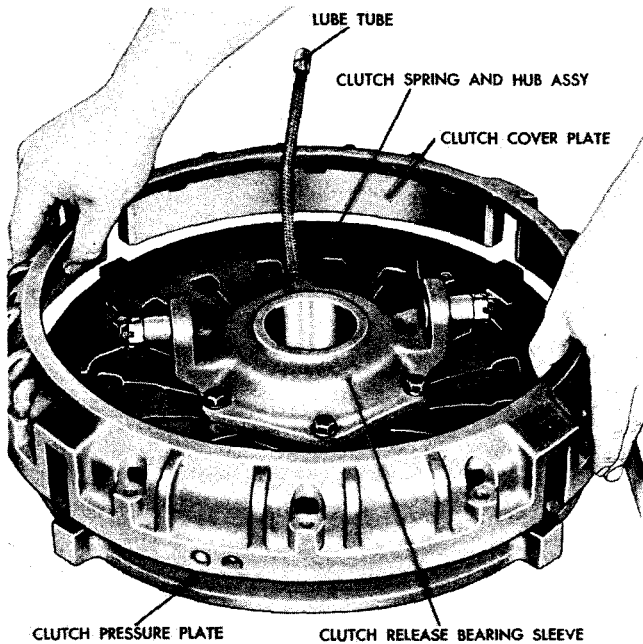
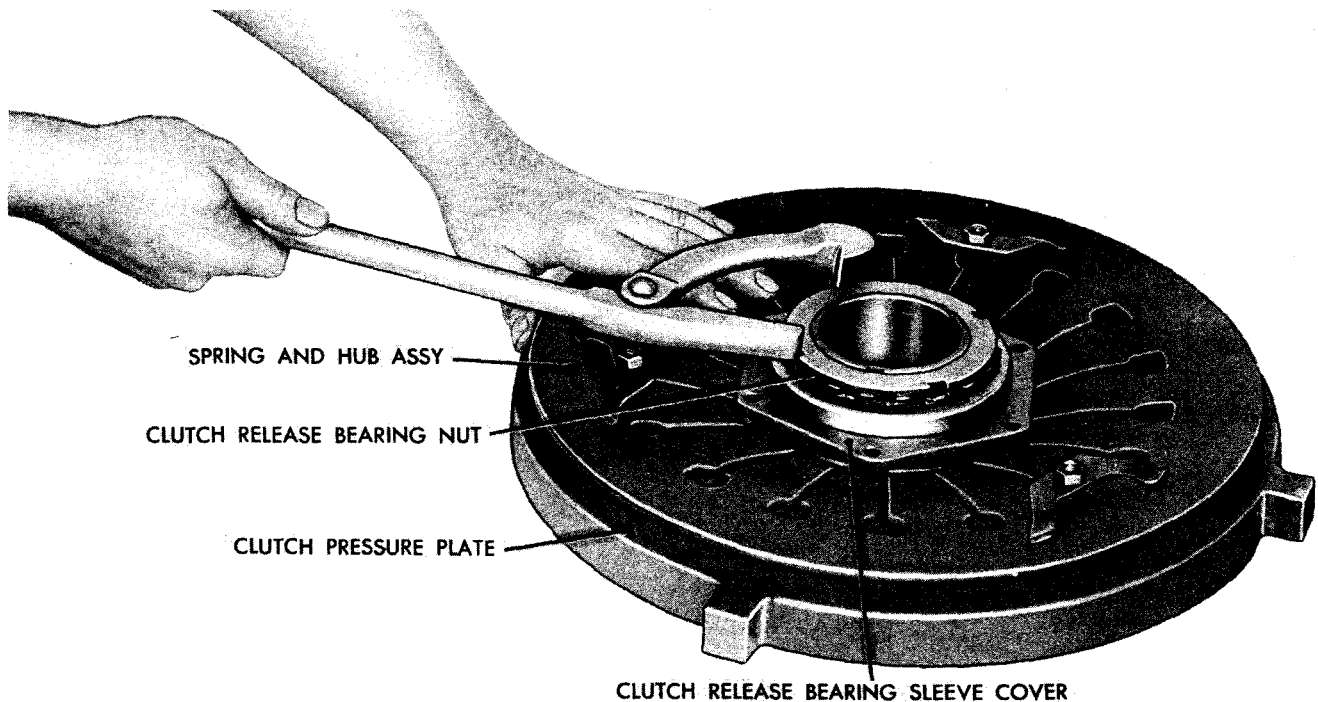

Fig VIII-5. Removing (or installing) clutch cover plate
Fig VIII-7. Removing clutch release bearing nut
(1) Remove the clutch cover plate from the spring and hub assembly and the clutch pressure plate (fig. VIII-5).
(2) Using a 1/2-inch wrench, remove six cap screws and lock washers and remove the clutch release bearing sleeve (fig. VIII-5), from the bearing on the spring and hub assembly.
(1) Bend down the tabs on the lock washer and, using an adjustable spanner wrench, remove the clutch release bearing nut from the stub shaft (fig. VIII-7).
(5) Install the lock washer and clutch release bearing nut. Refer to fig. VIII-7 showing removal of the nut. Tighten the nut and bend a tab from the lock washer into a slot in the nut.
(1) Drive the clutch release bearing sleeve (fig. VIII-5) onto the spring and hub assembly with a soft hammer and secure the sleeve to the sleeve cover (fig. VIII-7) with six bolts and lock washers.
(3) Install the clutch cover plate over the spring and hub assembly and the clutch pressure plate (fig. VIII-5).